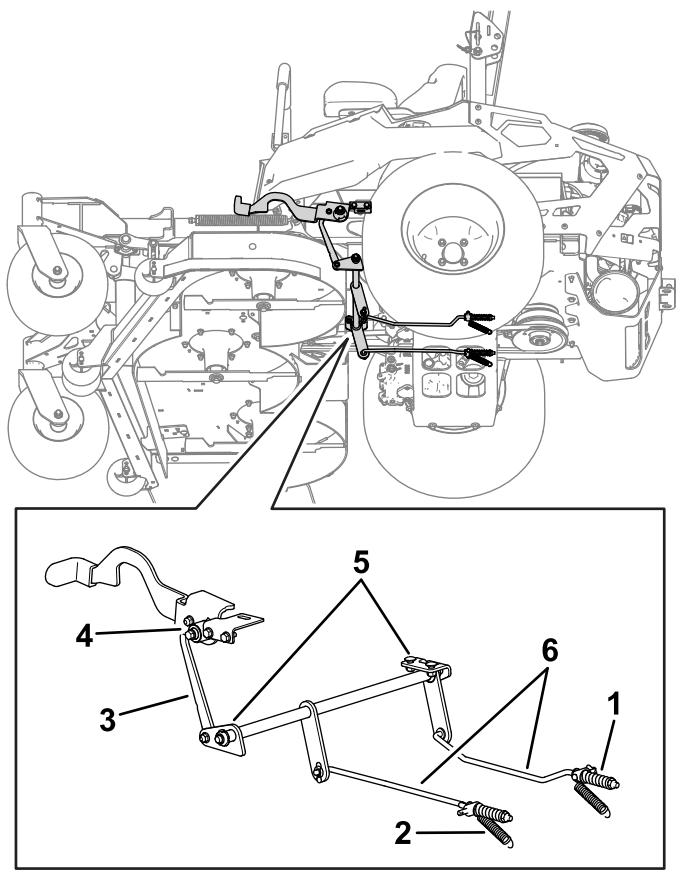

Figure 79
7. If an adjustment is necessary, disengage the parking brake. Inspect all components of the parking brake linkage for wear. Replace any worn components (Figure 79) and repeat step 6.